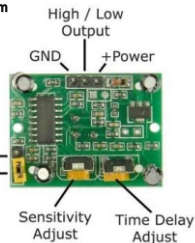

Figure 2
3. Connect the wires to the sensor using a special connector or using soldering or connecting clamps if the the sensor module has a soldered wire. (Depending on the type of sensor). Follow the diagram in Figure 2 and colored marking wires (Figure 2). A **WARNING!** Incorrect wiring can cause the sensor and controller to fail!
3. To make the sensor settings by adjusting the trimmers according to Fig.2.